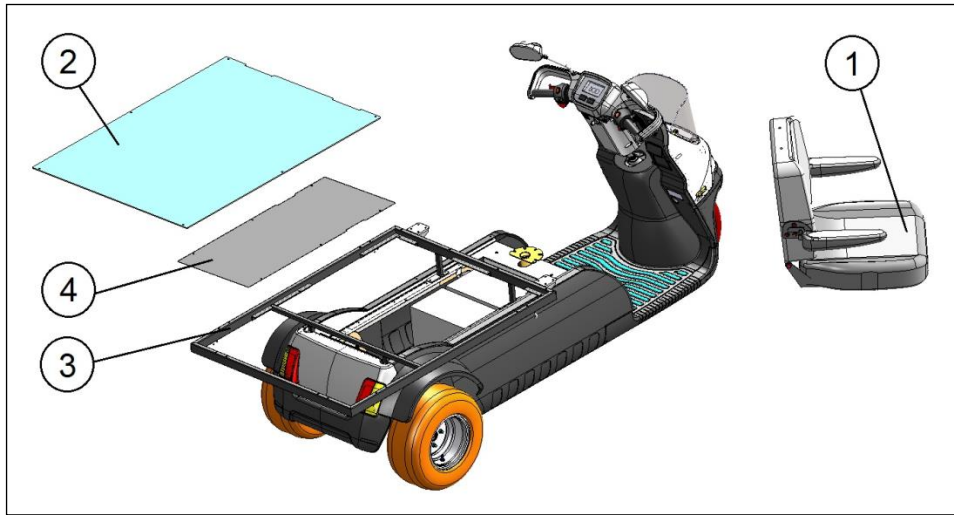
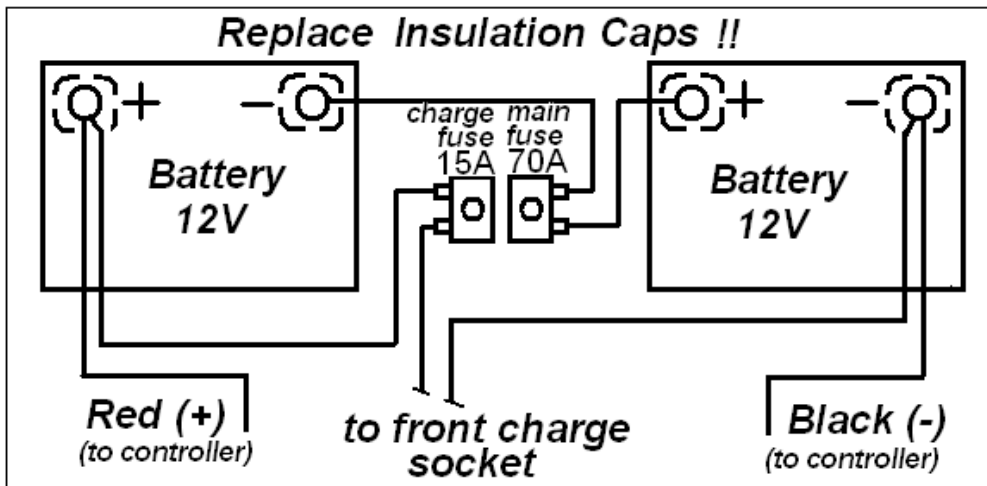

Figure 11
Figure 12
2. The numbers in parentheses refer to the parts illustrated in figure 11.
| Replace batteries | <p>Note! Batteries must be replaced by trained professionals only. Warning! Batteries contain high energy and can spark, resulting in a possible fire hazard. Warning! Working with batteries can cause damage and Injury if not done properly. In this procedure, refer to Figures 11 & 12.</p> <ol style="list-style-type: none"> 1. To replace the batteries, the platform needs to be removed. 2. Remove the seat first by turning it to 45 deg. And lifting it. The seat weight more than 20 kg (44 lbs). Recommended to lift it by 2 persons. 3. Remove the aluminium plate (2) of the frame (3) by releasing the securing screws and special Velcro tape. In the plate there are special opening to allow lifting it easily. 4. Then remove the batteries cover secured with 6 knurled screws. 5. Remove the terminal insulating cap from one battery terminal. 6. Using a 10/13 mm wrench key, unscrew the wiring from the terminal. Take care not to let the key touch any other terminal or metal part, as this could cause damage or injury. 7. Repeat steps 1 and 2 for all the other terminals. 8. Batteries weight are 35 kg each (77 lbs). Remove the old batteries and install the new ones. Use a proper help device for the lifting or another person help. 9. Connect the wires of the new batteries as shown in Figure 12 (also shown on the label located near the batteries). 10. Screw down the terminals securely, and replace the insulating caps. 11. Reinstall all covers and secure screws back in opposite order. |